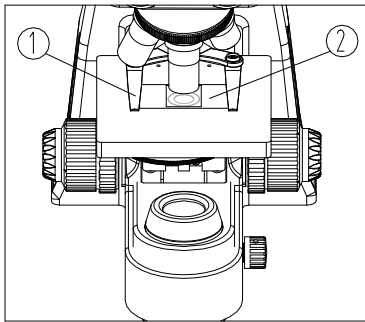

Fig. 8
Place the cover glass of slide ② faced upwards and move the specimen to the center (aligned with the center of objective). And fix the coverslip by the slide-holder (see Fig. 8).